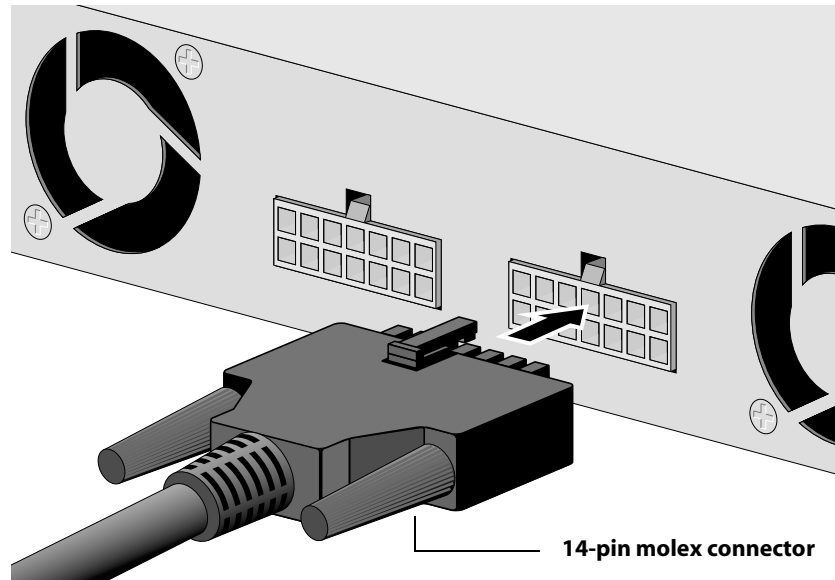

Figure 51 Connecting to the AT-RPS2004 unit
10. Connect the 14-pin molex connector of the RPS cable to the AT-RPS2004 unit, as displayed in Figure 51.